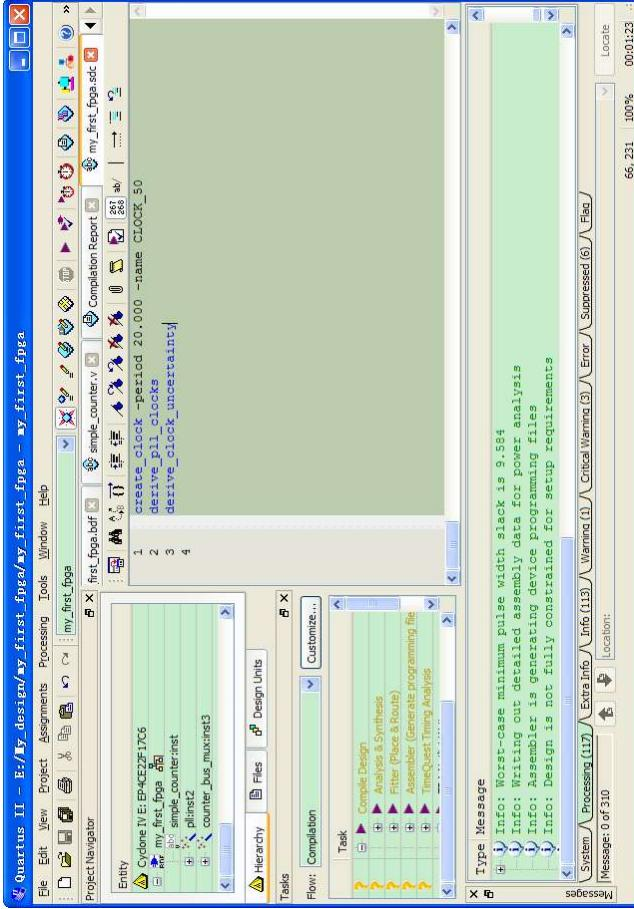

Figure 6-43 Default SDC
4. Save this file as my\_fpga.sdc (see Figure 6-43)